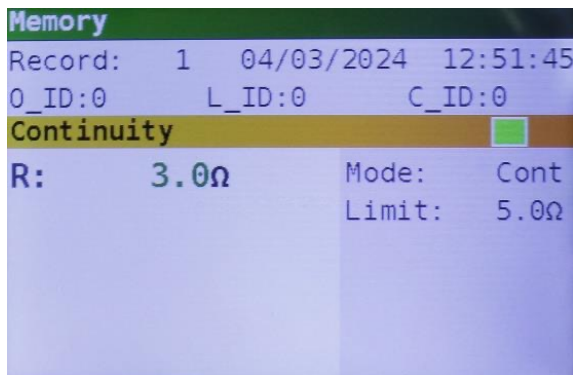

Figure 8.6: Saved results
- Step 4** To store the result of last measurement, press **TEST** key. The following will be displayed (Figure 8.6).